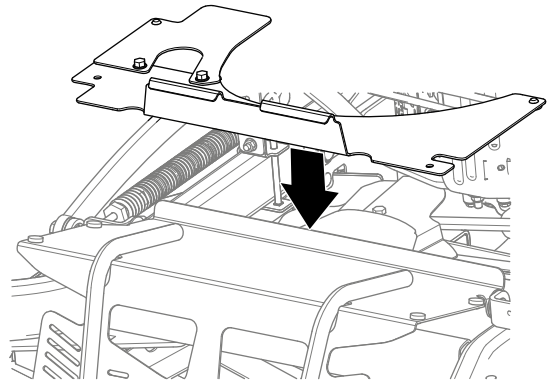

Figure 36
1. Assemble the guard extension to the machine as shown in Figure 36.